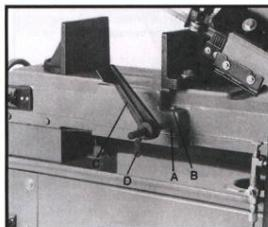

Fig. 1
4. Slide material stop bar (A, Fig. 1) into base and secure by tightening bolt (B). Slide material stop (C) onto bar and tighten blot (D).